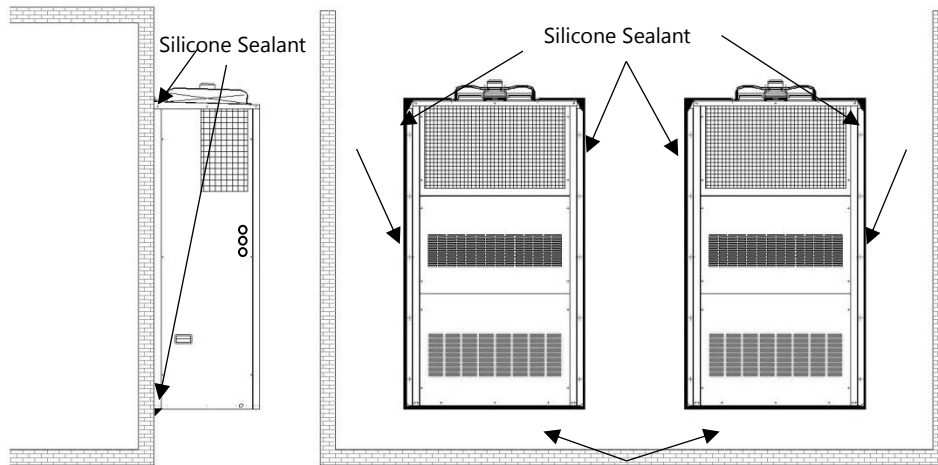

Figure 10: Seal the Joints between WPUs and Wall
To prevent moisture from getting in and air leaking out, coat the joint between the rear panel of the unit and the wall with a layer of silicone sealant (installer provided, see Table 4, item 1) as shown in Figure 10.